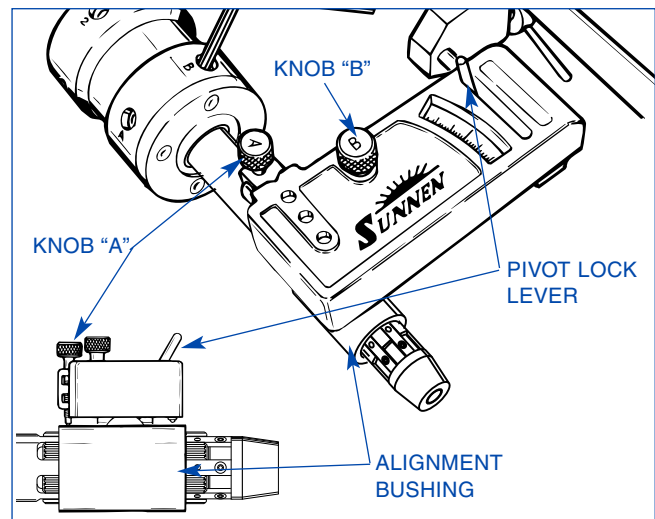

FIGURE 2-19, Indicator Adjustment
8. Adjust spacing of gaging points on Runout Indicator so points are as far apart as Alignment Bushing permits (see Figure 2-19).